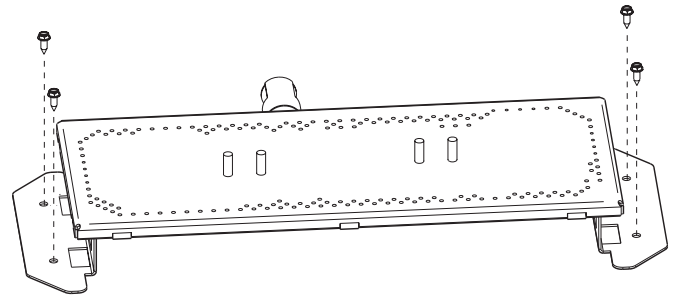

Figure 24. Remove four sheet metal screws to lift burner out of the firebox.
7. **Lift out the Burner Plate** with removal of four screws from the firebox floor. See fig. 24.